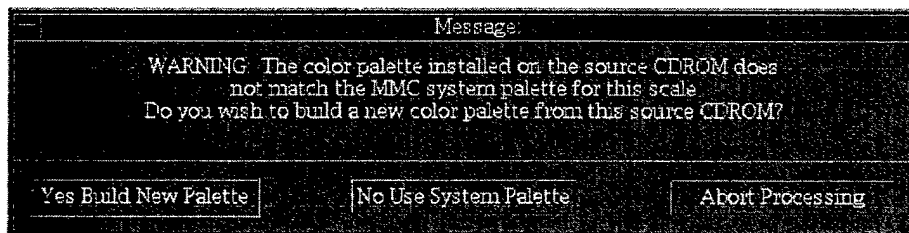

Figure 3. Color palette warning message
- f. This CD-ROM contains a new color palette file, so a warning dialog box appears (figure 3) stating that the color palette installed on the CD-ROM does not match the MMC system palette. Click on *Yes Build New Palette*.